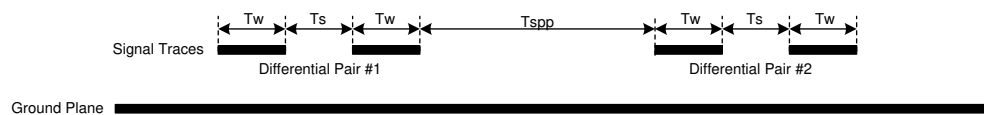

Figure 10-15. DMD Differential Layout Recommendations
DLPC6540 I/O timing parameters as well as DMD I/O timing parameters can be found in their corresponding data sheets. Similarly, PCB routing mismatch can be budgeted and met through controlled PCB routing. PCB design recommendations are provided in Table 10-7, Figure 10-15, and the paragraph below as a starting point for the customer.
- (1) Recommendations to achieve the desired nominal differential impedance as specified by  $R_{DIFF}$  in Section 6.7.
- (2) These parameters show recommendations based on the micro-strip design shown in Figure 10-15. This design minimizes signal loss to support longer trace lengths at the expense of electromagnetic interference (EMI). The designer has the option to use of a stripline design for shorter trace lengths and to target minimizing EMI at the expense of signal loss.
- (3) A reduced inter-lane spacing can be used to escape the Controller ball field, however, widen this spacing to at least the stated minimum after escape.